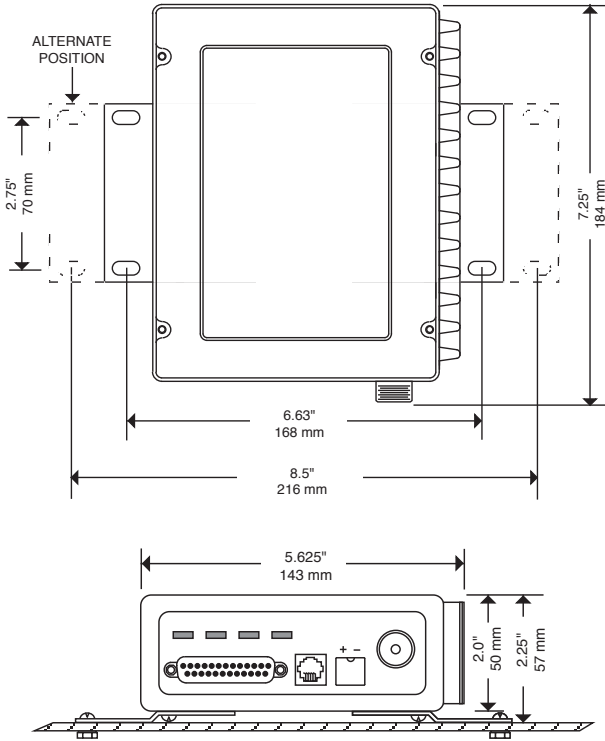

Figure 5. Transceiver Mounting Bracket Dimensions
1. **Mount the transceiver to a stable surface** using the brackets supplied with the radio. Begin by attaching the radio's mounting brackets to the bottom of the transceiver case (if not already attached) using the four 6-32 x 1/4 inch (6 mm) screws supplied. Figure 5 shows the mounting bracket dimensions.